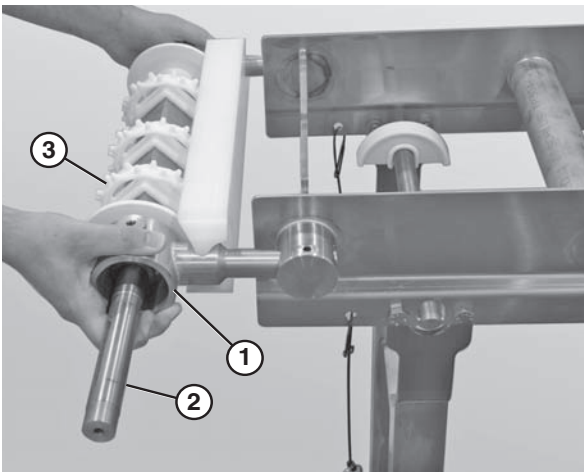

Figure 71
6. Slide the drive tail assembly out of the take up blocks (**Figure 71**).
7. Slide the motor support bracket (**Figure 71, item 1**) off the drive spindle (**Figure 71, item 2**).
8. Remove the sprockets (**Figure 71, item 3**).